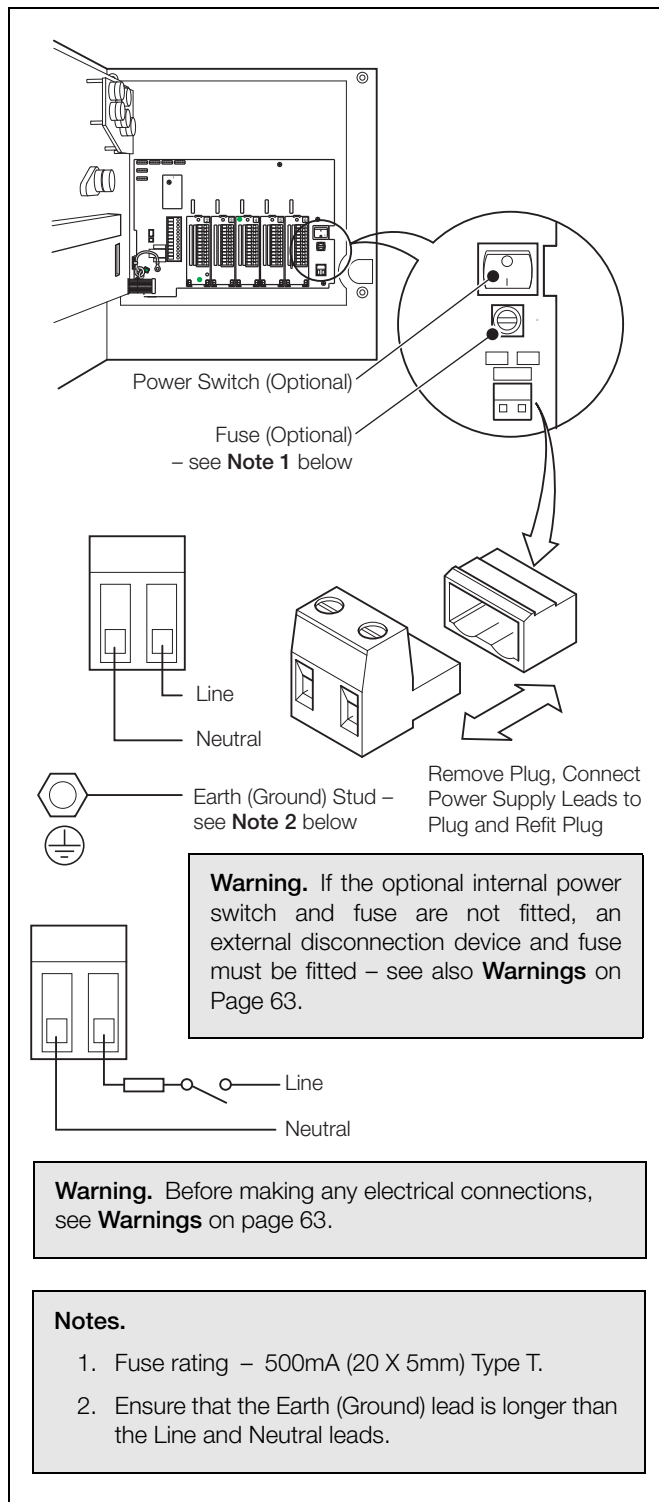

Fig. 5.9 Power Supply Selection and AC Connections
- Use screened cable for signal inputs and relay connections. Connect the screen to the earth (ground) stud – see Fig. 5.9 on page 70.